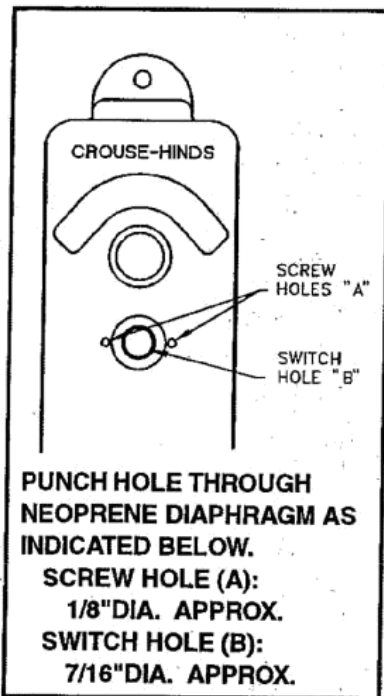

Figure 3
1. Pendant front half to be modified as shown in figure 3.